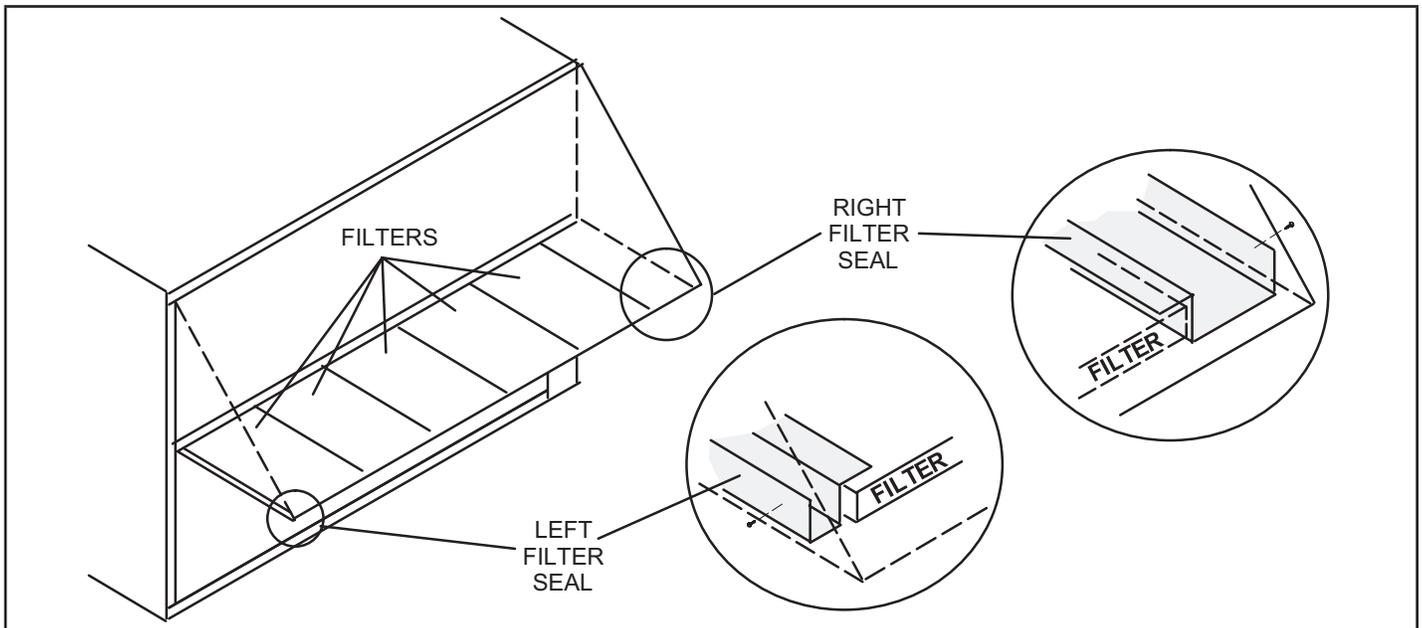

FIGURE 10
- 7 - Secure side seals to the hood sides as shown in FIGURE 10.